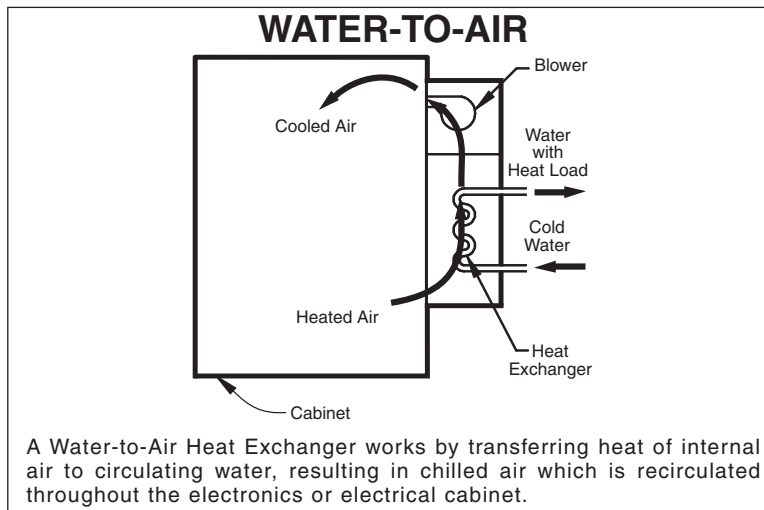

Figure 1
2. See Figure 1 for proper orientation. Place the M/TAB flush against the outside of the cabinet to locate cutouts and mounting holes.